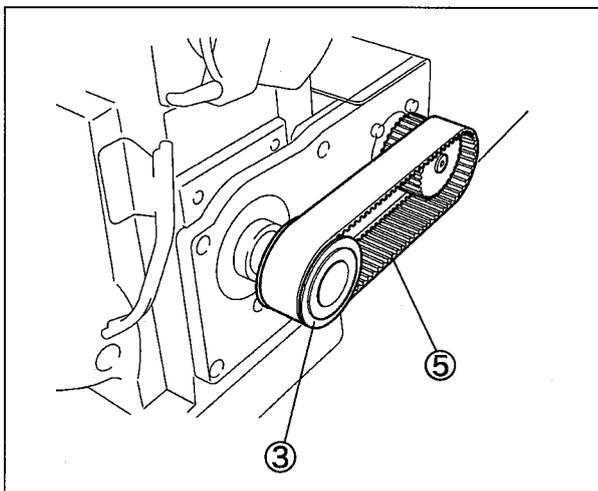
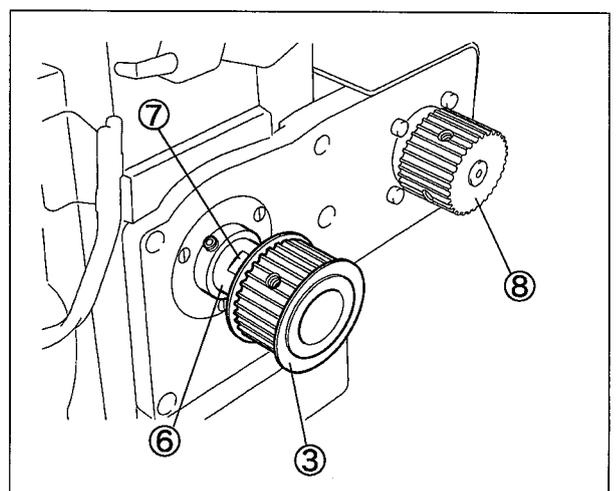

Fig. 56
Fig. 57
3. Pull out the pulley(front) with the timing belt ⑤ while rotating the pulley(front). (Fig. 56)
1. Push into the pulley(front) ③ about 1/3 to motor adapter ⑥. (Fig. 57)
2. It put the timing belt ⑤ on pulley(front) and then it hang to pulley(large) ⑧. (Fig. 56)
3. Push into the pulley(front) ③ about 2/3 while rotating the hand wheel. (timing belt ⑤ must be parallel.)
4. Aline the flat spot ⑦ (2 places) of the motor adapter ⑥ with screw ④. (Fig. 57)
5. Push it until apply pulley(front) ③ to the collar of pulley(large) ⑥, keep to parallel with pulley(front) ③ and timing belt ⑤. (Fig. 56, 57)